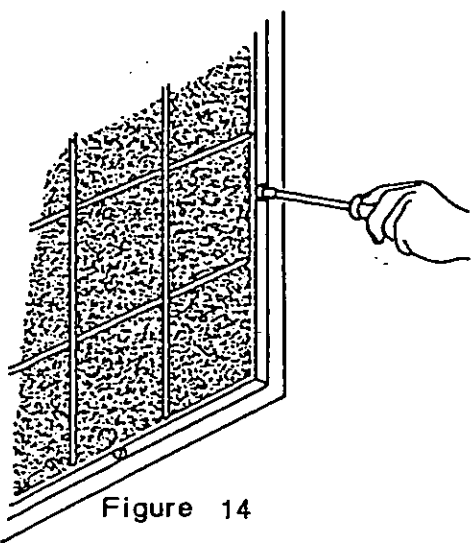

Figure 14
- Remove cover frame with a screwdriver. To mount, turn screws 90° (Figure 14).